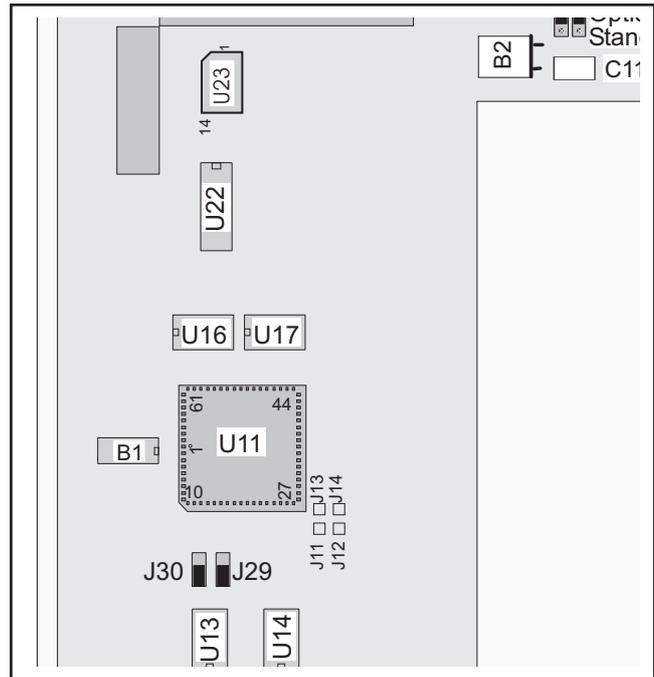

Fig. 5-3 Test points and jumpers for checking the microcontroller.
- Check that 6 MHz is present at U11, pin 65 (see Fig.5-3).